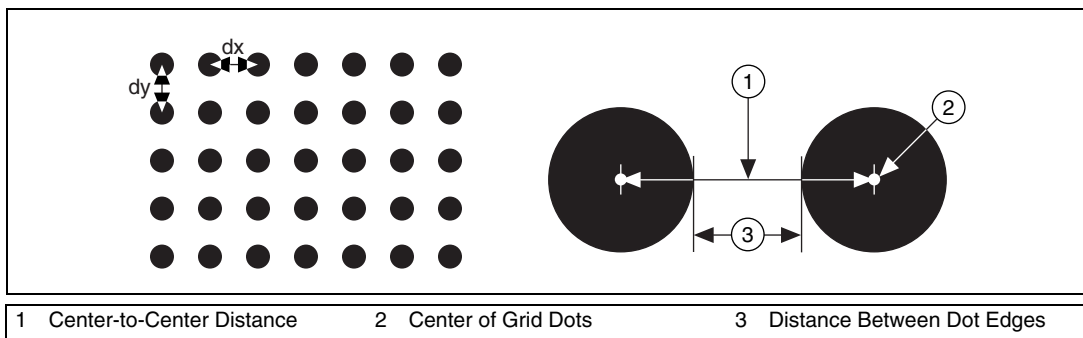

Figure 6-1. Defining a Calibration Grid
A calibration template is a user-defined grid of circular dots. As shown in Figure 6-1, the grid has constant spacings in the x and y directions. You can use any grid, but follow these guidelines for best results:
- The center-to-center distance between dots in the acquired image should range from 18 to 32 pixels, as shown in Figure 6-1.
- The minimum distance between the edges of the dots in the acquired image should be six pixels, as shown in Figure 6-1.